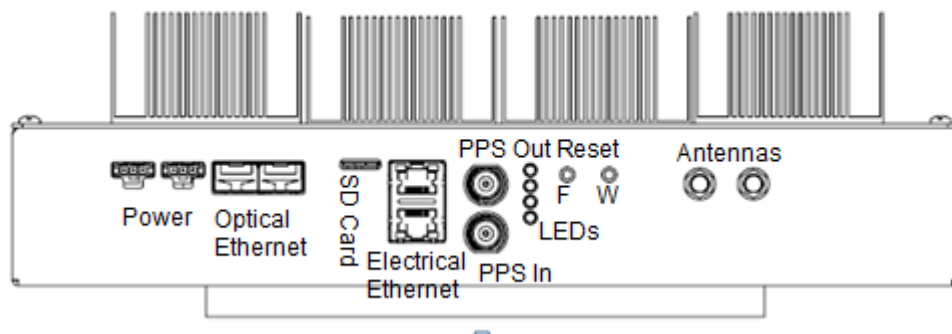

Figure 4 –Base Station Connectors
- 2) Connect the power cables to the Base Station see Figure 4 for the location of these connectors.
Decide on which you want to use and connect the appropriate length and type of cables to the appropriate Ethernet connector on the Base Station, see Figure 4 for the location of these connectors.
Normally, the 1PPS master source should be fanned out to multiple BSs via distribution amplifiers in a star or tree configuration. However, the PPS OUT connector allows a second Base Station to be synchronised to the first, e.g. in a situation where the first is free-running and acting as the timing master. A daisy chain of multiple BSs is not recommended, as each will take a few minutes from start-up to generate a stable output, and the chain would be sensitive to a point failure. See Figure 4 for the PPS OUT connector position.
The Base Station software is loaded at power on from a microSD Card inserted into the Base Station (see Figure 4 for location). microSD Cards of up to 32GB are supported.
The Base Station has a number of lights that indicate activity on the unit, the power and status indicator lights are mounted in a single 4-way LED and the lights that indicate Ethernet activity are part of the relevant connectors block (see Figure 4 for their location).